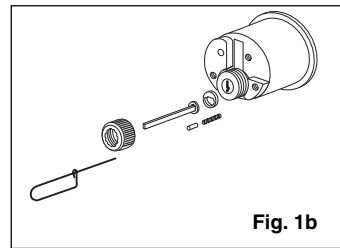

Fig. 1b
- b. After removing cap and tailpiece, pull pin and spring from cylinder housing. (Fig. 1b)